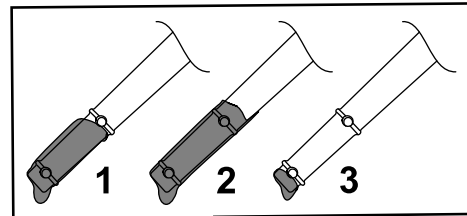

Figure 32
3. Remove the dipstick by rotating the cap counterclockwise and pulling it out (Figure 32).
4. Tip the machine onto its side (so that the air filter is up) to drain the used oil from the oil-fill tube (Figure 32).
10. Read the oil level on the dipstick (Figure 32).